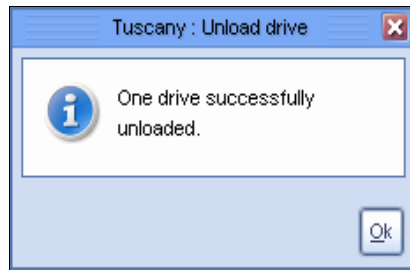

Figure 10-113 Drive unloaded
4. Select VT → VT Drive → Unload drive (Figure 10-113).